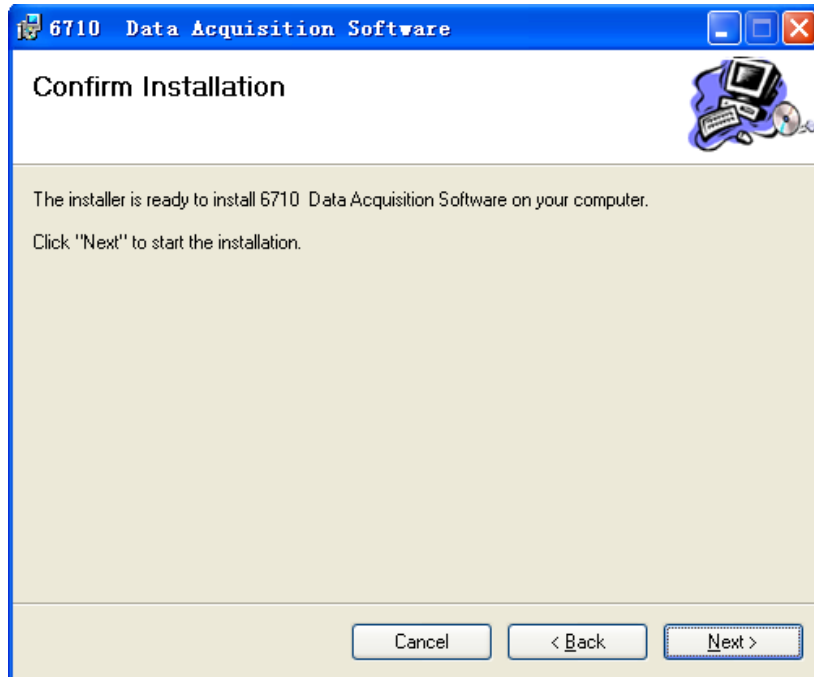

Figure 2-3
3) Then the screen shown in Figure 2-3 appears. Press “Next” to start the installation.